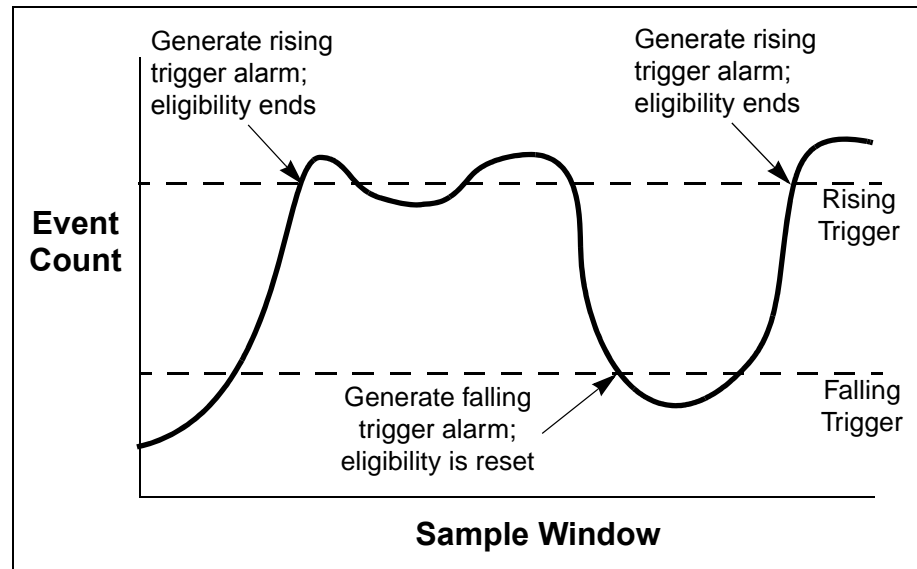

Figure 2-34. Port Threshold Alarm Example
5. Enter a value for the rising trigger. A rising trigger alarm is generated when the event count per interval exceeds the rising trigger. The switch module will not generate another rising trigger alarm for that event until the count descends below the falling trigger and rises again above the rising trigger. Consider the example in Figure 2-34.